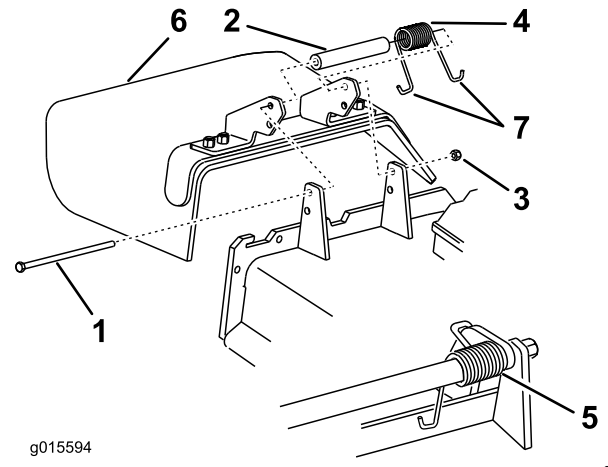

Figure 124
Note: Make sure that 1 J-hook end of the spring is installed behind the deck edge before installing the bolt as shown in Figure 124.
6. Place 1 J-hook end of the spring around the grass deflector (Figure 124).
1. Remove the locknut, bolt, spring, and spacer holding the deflector to the pivot brackets (Figure 124).
2. Remove the damaged or worn grass deflector (Figure 124).